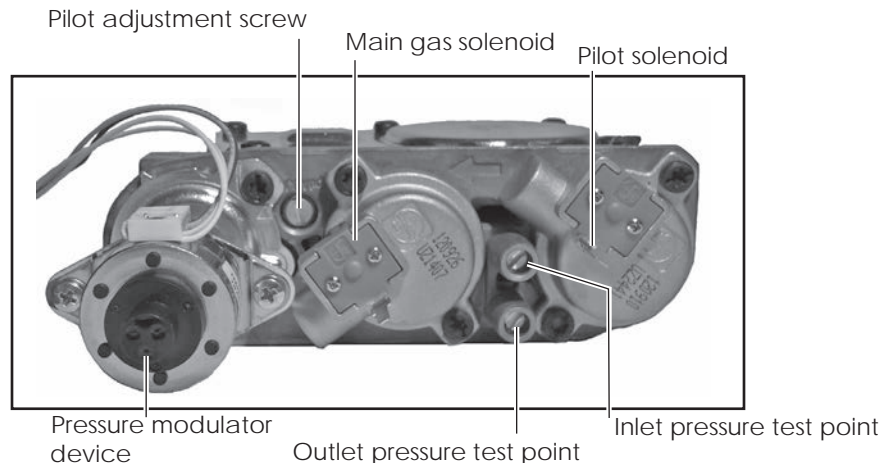

Figure 12: valve.
2. Locate the inlet and outlet test points on the valve which can be seen in (Figure 12). After locating test ports loosen the screws within the ports using a flat-tip screwdriver.
The pilot flame level can be adjusted by turning the adjustment screw, using a flat-tip screwdriver, seen on the valve in Figure 12.